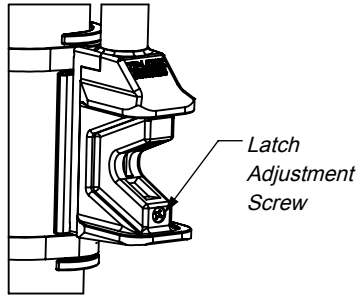

FIG. 7
2. Secure the Latch using (1) Latch Adjustment Screw (Fig. 7).